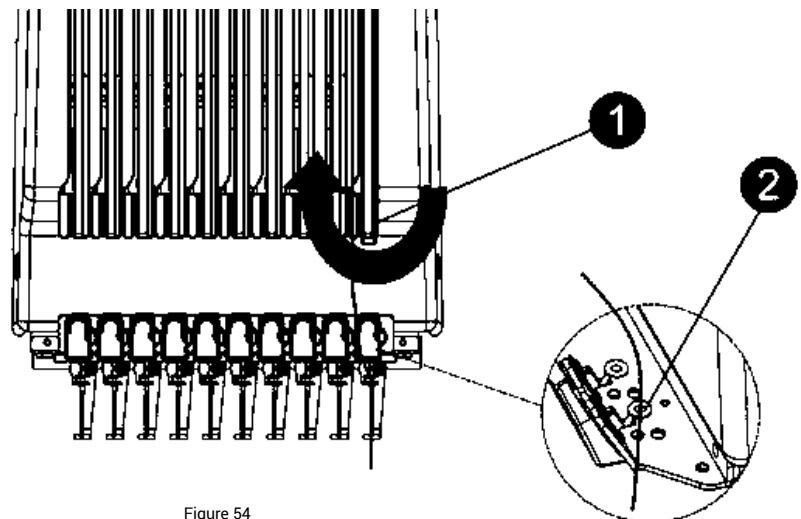

Figure 54
21. Pull the thread around the bottom of the divider to bring the thread up again. See No. 1 in Figure 54.
24. Take the thread back down and through the bottom eyelet. See No. 2 in Figure 54.